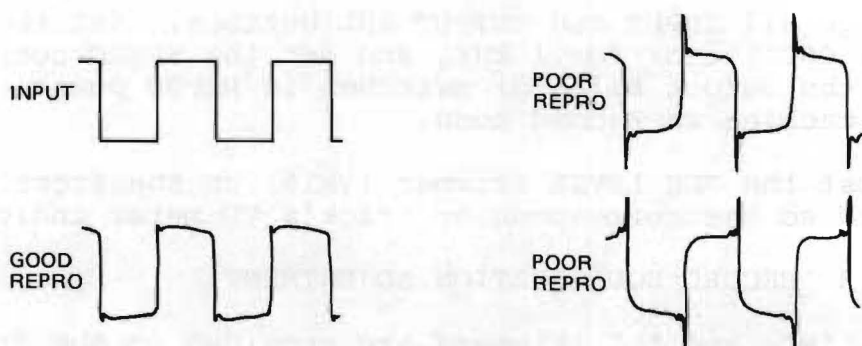

FIGURE 4-5. WAVEFORMS SHOWING PHASE COMPENSATION ADJUSTMENT
3. Switching the output selector between REPRO and INPUT (or SEL-REP), adjust the L PHASE COMP trimmer (VR19) on the track's AUDIO board until the repro signal is most similar to the input signal. Refer to Figure 4-5.